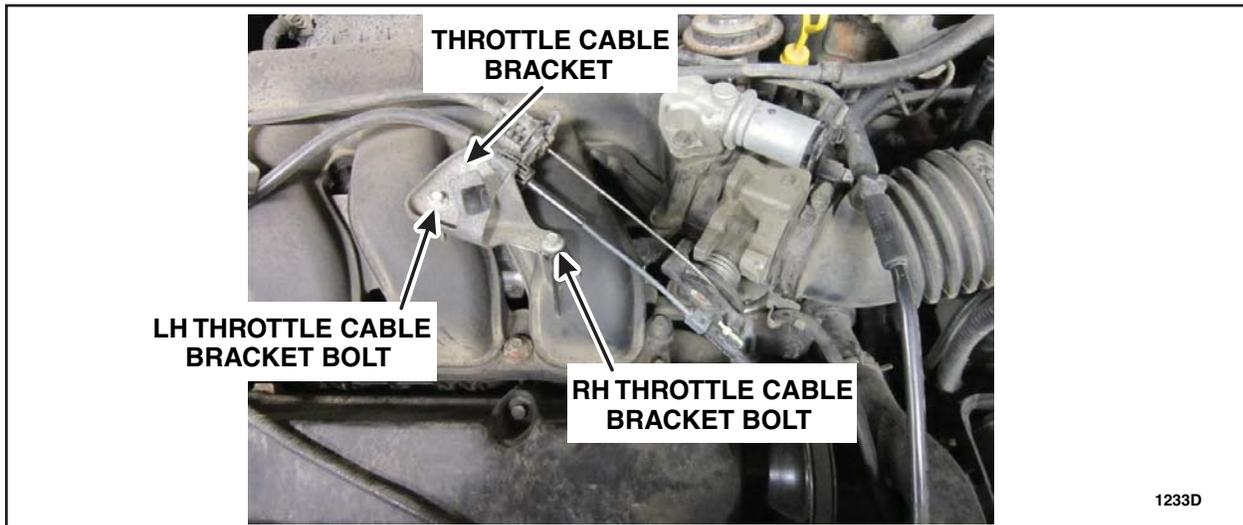

FIGURE 3
3. Loosen the RH throttle cable bracket bolt and remove the LH throttle cable bracket bolt. See Figure 3. Rotate the bracket to allow enough clearance for the speed control cable to be positioned under the bracket.